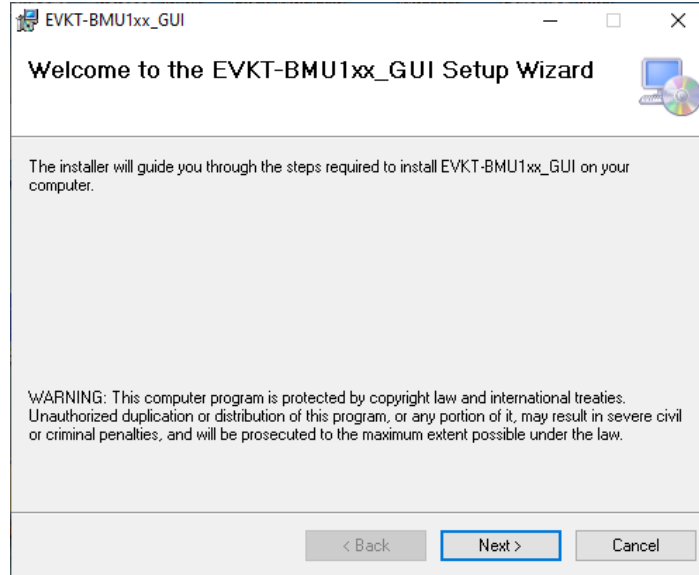

Figure 17: EVKT-BMU1xx GUI Set-Up Guide
2. Double click the “.msi” file to open the set-up guide (see Figure 17).